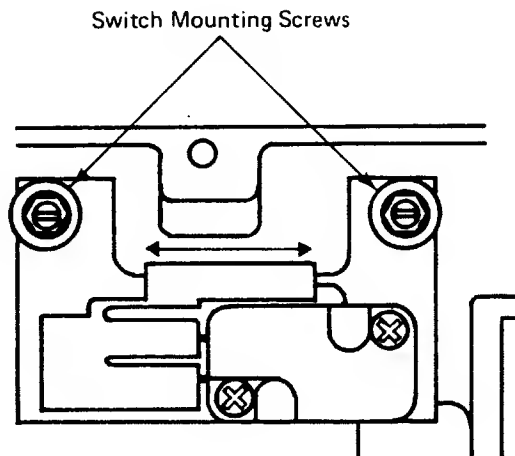

FIGURE 6-11. TRACK 00 SWITCH ADJUSTMENT
- 6.3.4.11 If the drive does not satisfy test conditions 6.3.4.9 and 6.3.4.10, loosen the track 00 switch mounting screws on the underside of the drive. (See Figure 6-11.)